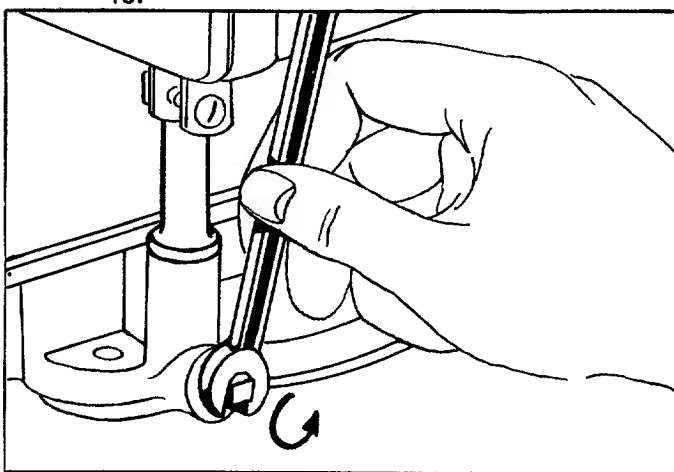

FIGURE 15. OIL DRAIN
After the first five hours of operating a new engine, drain the oil (see figure 15) from the crankcase while engine is still hot and refill crankcase with new oil; thereafter change the oil every 25 hours of operation. This procedure ensures for minimum wear of engine parts and provides for virtually trouble-free operation. To change the oil, proceed as follows:
Step 1. With the machine on level ground, place a suitable metal container under the oil drain plug, then remove the drain plug. See figure 15.